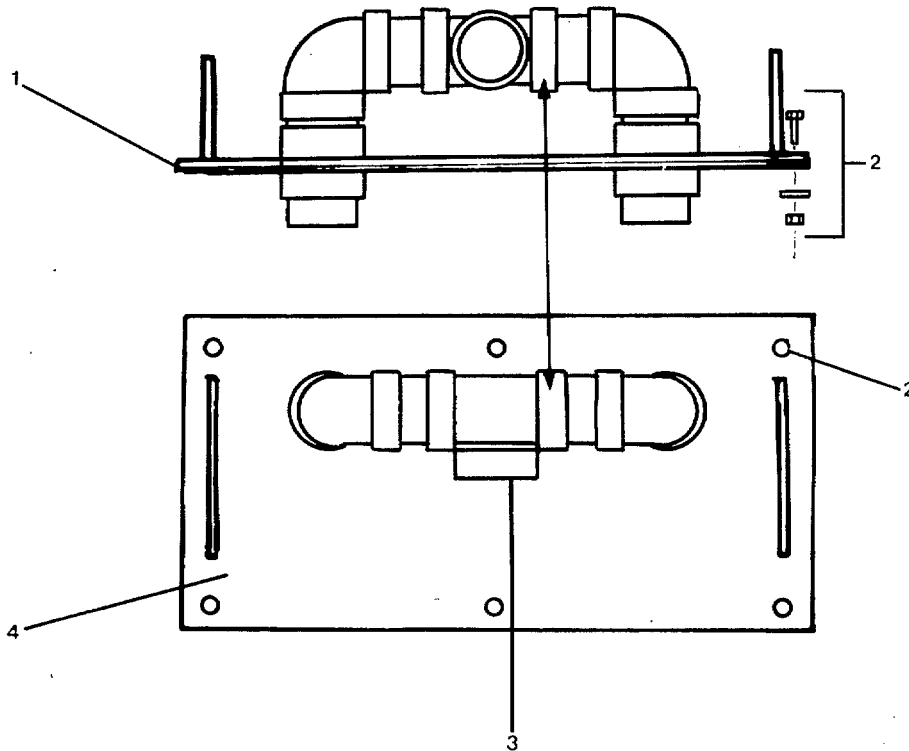
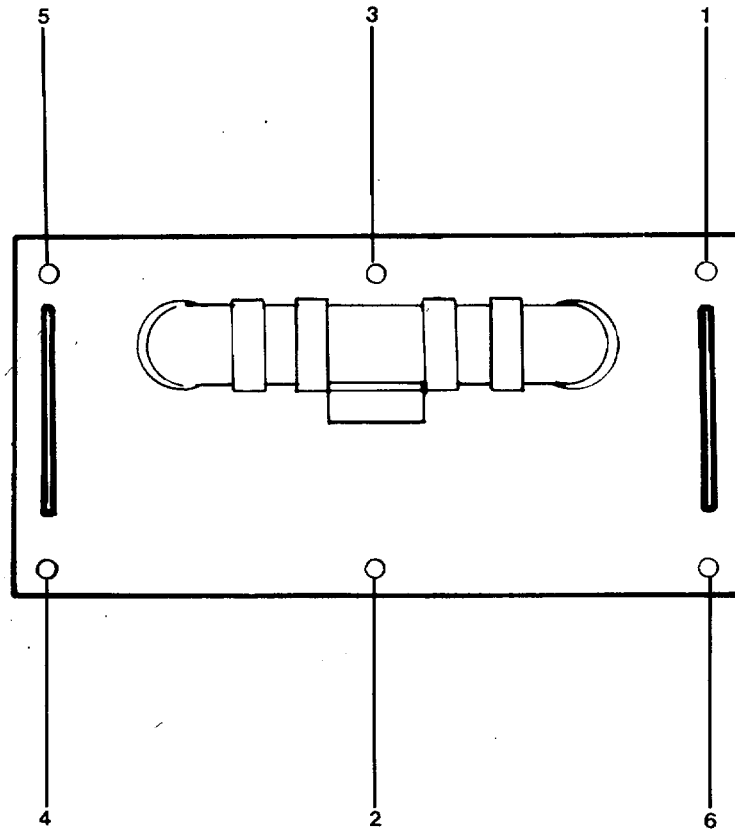
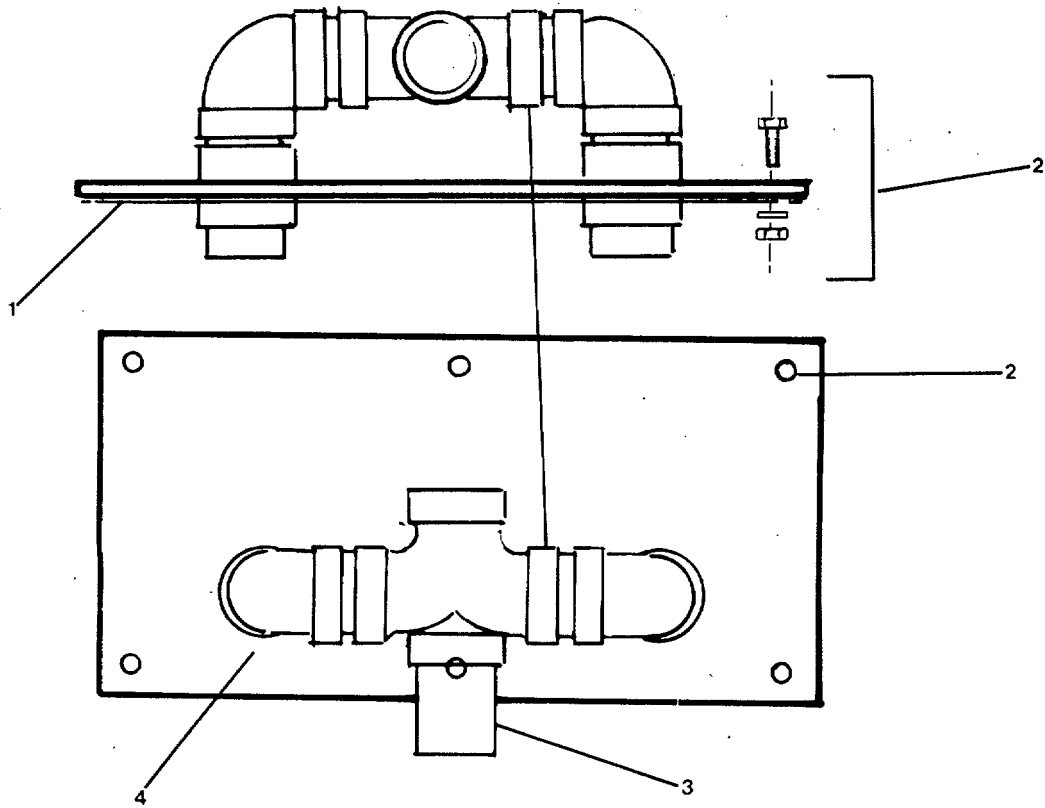

Figure 2-6. End Sediment Tank Cover Assembly.
Figure 2-7. Sediment Tank Cover Torque Sequence.
Figure 2-8. *Mid Sediment Tank Cover Assembly.*
**2-12. Repair End Sediment Tank Cover Assembly. (FIGURE 2-6)**
- (1) Operate the sanitary unit.
- (2) While the unit is operating, flush the system with five flushes from a commode or commodes.
- (3) Wait until the unit has stopped running.
- f. Remove the hose clamps and disconnect the flexible coupling in the vent piping on the cover assembly at point (3) in FIGURE 2-6.
- h. Remove capscrews, nuts and washers (2, FIGURE 2-6).
- i. Remove cover assembly (4).
- j. Remove and discard the cover gasket (1).
- b. Replace the end cover gasket (1, FIGURE 2-6). Refer to the removal and replacement steps in this procedure.
- b. Position the gasket (1, FIGURE 2-6) on the sediment tank.
- c. The end of the vent pipe (3, FIGURE 2-6) must be placed in the flexible coupling when positioning the cover. Position the cover (4) on the tank and gasket.
- d. Install the six capscrews, nuts, and washers (2) in the cover. Tighten each capscrew finger-tight only.
- e. Tighten the capscrews to 31 ft-lb in the sequence shown in FIGURE 2-7.
**2-13. Repair Mid Sediment Tank Cover Assembly. (FIGURE 2-8)**
- g. Remove the hose clamps and disconnect the flexible coupling in the vent piping on the cover assembly at point (3) in FIGURE 2-8.
- i. Remove the six capscrews, nuts, and washers (2, FIGURE 2-8).
- j. Remove the cover assembly (4).
- k. Remove the cover gasket (1). Discard the gasket.
- b. Replace the mid sediment tank cover gasket (1, FIGURE 2-8). Refer to the Removal and Replacement steps in this procedure.
- a. Clean the gasket sealing surfaces on the sediment tank and cover assembly (4, FIGURE 2-8).
- b. Position the gasket (1, FIGURE 2-8) on the sediment tank.
- c. The end of the vent pipe (3, FIGURE 2-8) must be placed in the flexible coupling when positioning the cover. Position the cover (4) on the tank and gasket.
- e. Refer to FIGURE 2-7 and tighten capscrews in the sequence shown to 31 ft-lb.